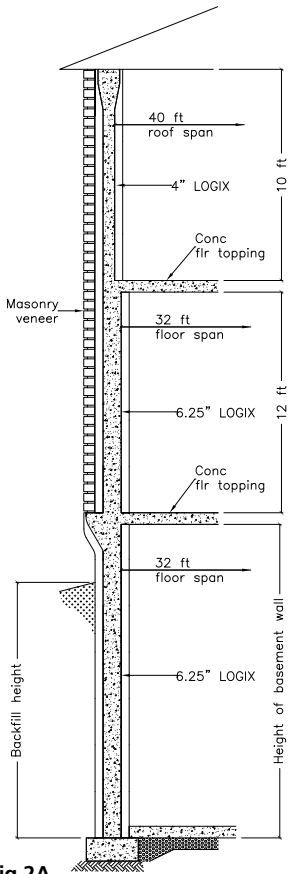

Fig 2A
Tables 2A to 2D, and 2A-H to 2D-H, and shall be used in conjunction with corresponding Figures 2A to 2D, the notes listed below, and the building limitations noted in the "Reinforcement Tables" section, which form the basis of these tables.
2. Table 2A shall be read in conjunction with Fig 2A, and section "Notes for Tables 2A to 2D - LOGIX Below-grade Tables."
- Table shall be read in conjunction with Fig 2A, and section "Notes for Tables 2A to 2D - LOGIX Below-Grade Tables."